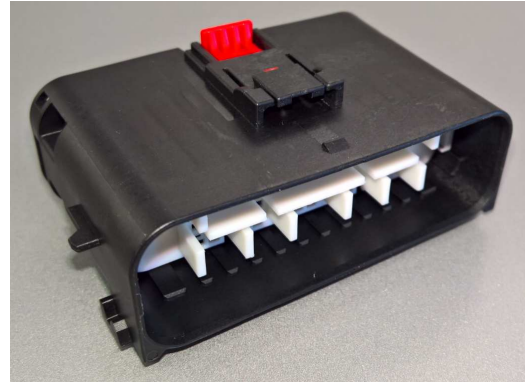

Figure 1
This instruction sheet provides assembly, disassembly, mating, and un-mating procedures for the sealed harness connectors shown in Figure 1. The connectors are designed to use 1.2 MCON, 2.8 MCP, and 6.3 MCP terminal systems. Connector assemblies can be configured with specific patterns of blocked circuits, or in “all open” configuration and blocking of unused circuits accomplished by using “sealing plug” components. The CPA feature (Connector Position Assurance) for the lever mechanical assist is contained in the body of the Male Connector Outer Housing, so a separate Wire Dress Cover is not required but is optional.
1. If lever is not in the position shown in Figure 1, rotate it toward the wire exit end of the connector until it stops.